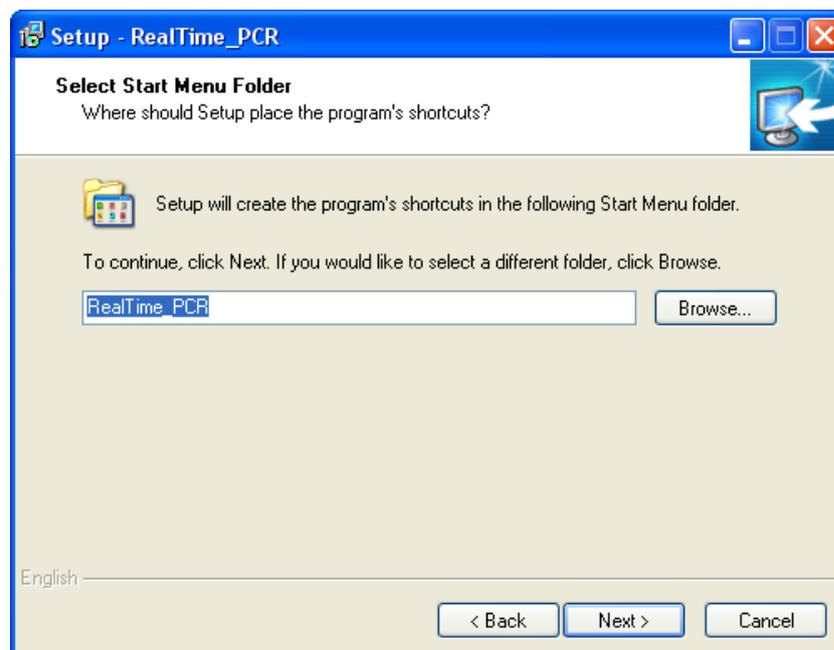

Fig.16 Selecting of folder to create shortcuts
- Select the name of the folder, where **RealTime_PCR** shortcuts will be created, and click . (Fig.16).